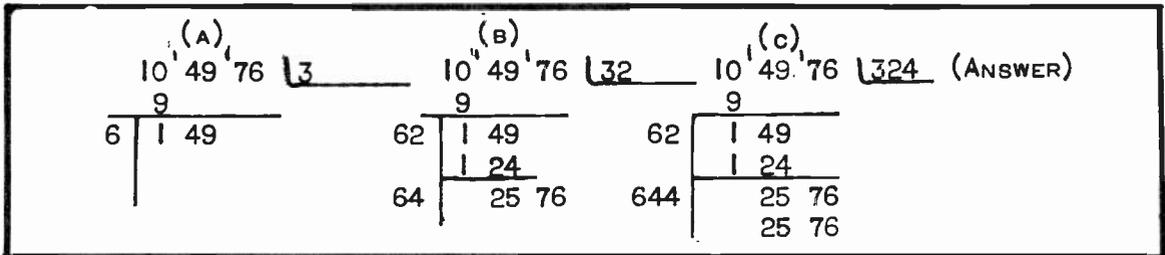

FIG. 25
FIRST WRITE DOWN THE NUMBER OF WHICH THE SQUARE ROOT IS TO BE FOUND AS AT (A) IN FIG. 25 AND DRAW A BRACKET TO THE RIGHT OF IT AS SHOWN. THE NEXT STEP IS TO START AT THE RIGHT OF THIS NUMBER AND DIVIDE UP THIS NUMBER INTO GROUPS OF TWO NUMBERS EACH. THESE GROUPS ARE POINTED OUT TO YOU IN (A) BY THE COMMAS. NOW THEN, THE NUMBER 10 APPEARS IN THE LEFT HAND